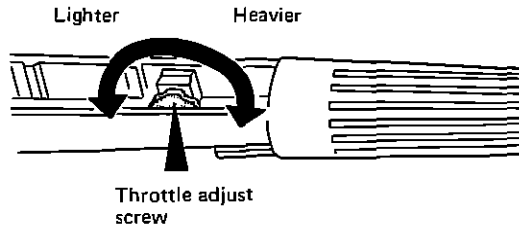

Fig. 15 Adjusting the throttle grip tightness
- 6) When the operation of Throttle Grip feels too tight or too loose, adjust it by turning the adjust screw. (Fig. 15)